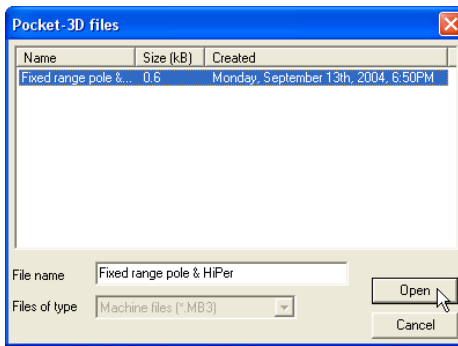

Figure 2-24. Select and Open Pocket-3D Equipment File
3. On the *Pocket-3D files* dialog box, select the file to import and click **Open** (Figure 2-24). The file type is automatically selected.